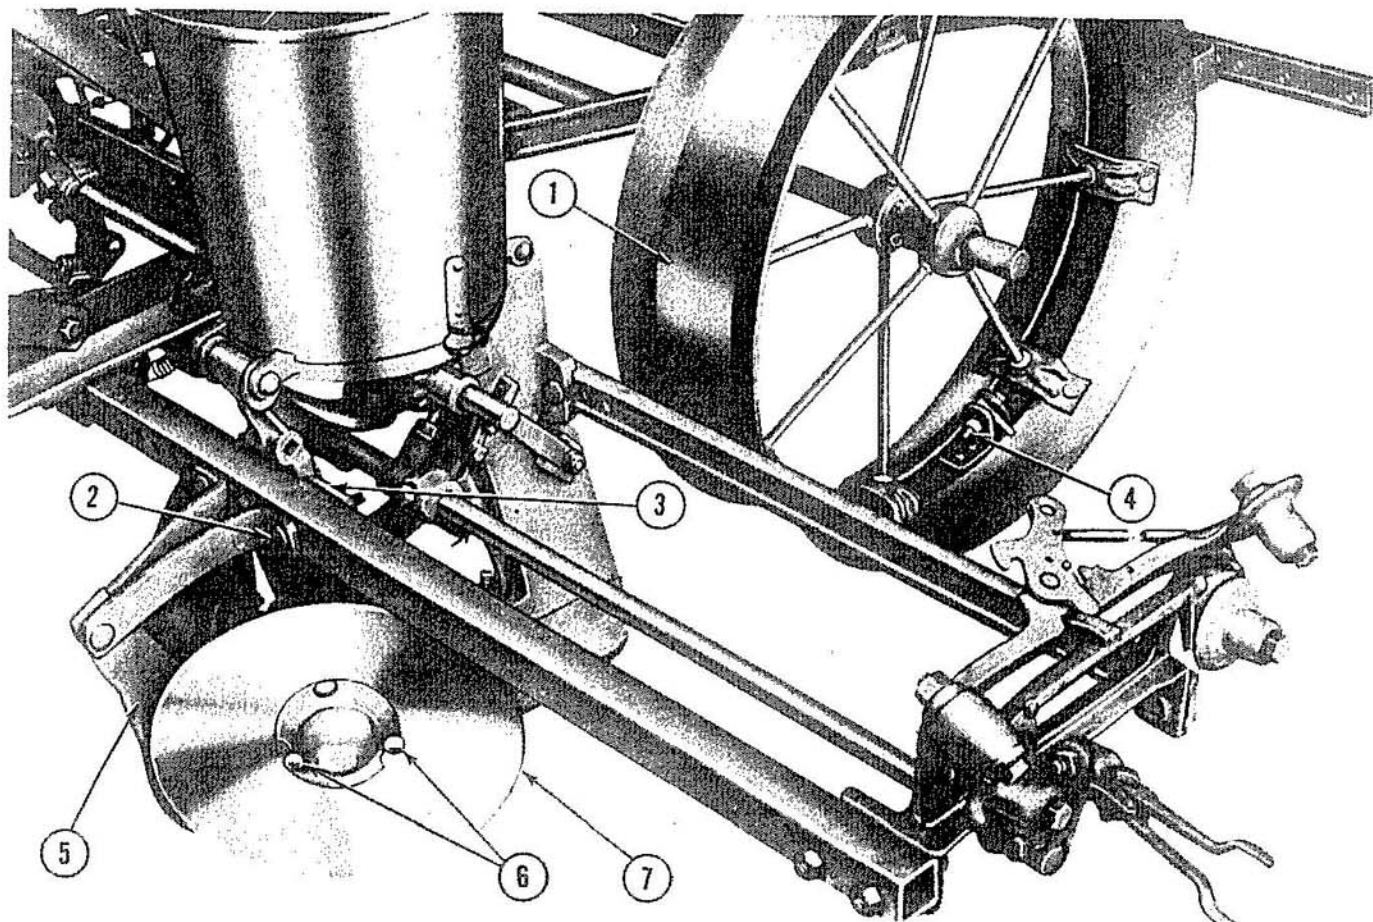

Figure 11
The wheel Band Attachment (1), Figure 11, is used when it is necessary to obtain more buoyancy in soft ground or to pack the soil more firmly over the seed.
- a. Remove the nuts and lockwashers from the bolts (2), Figure 11. Remove a disc opener assembly (7) from one side of the assembled openers. Attach the mounting plate (3) and the attached opener assembly as shown. Replace the washers and nuts on the bolts (2).
- b. Attach the removed opener assembly (7), Figure 11, to the mounting plate with the bolts, lockwashers, flat washers and nuts provided. The holes in the mounting plate are slotted to facilitate positioning of the disc opener assemblies. They should be positioned so that they are as close as possible to the runner assembly (5) without striking it.
Adjustment: If it becomes necessary to disturb the nut on the back of the disc spindle, the bearings will require adjustment. To adjust, loosen the two bolts (6), Figure 11, and completely remove the third bolt. Then remove the hub cap. Withdraw the cotter pin from the castellated adjusting nut and adjust the nut to permit the disc to turn freely but without play between the disc and the disc hub. Replace the cotter pin, hub cap, bolt, and tighten the nuts.